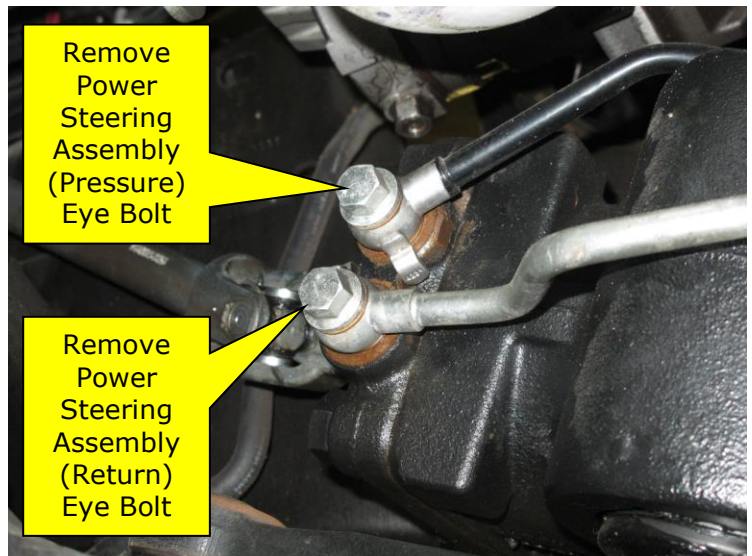

Figure 6
5. Remove Power Steering Hose Assembly **(Pressure & Return)** eye bolts (Figure 6).